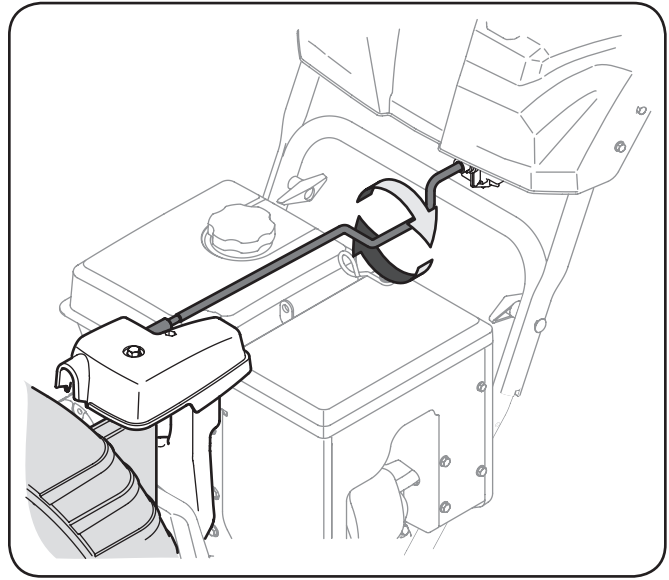

Figure 4-3
4. Grasp the indented portion of the chute control rod and manually rotate the chute assembly to the right or to the left. See Figure 4-3.